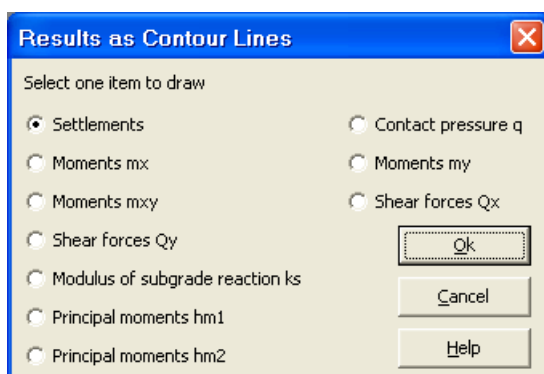

Figure 13-50 "Results as contour lines" option box
- Choose "Results as contour lines" command from "Graphic" menu of *ELPLA-Graphic*. The following option box in Figure 13-50 appears
- Choose "Results as contour lines" command from "Graphic" menu of *ELPLA-Graphic*. The option box in Figure 13-50 appears